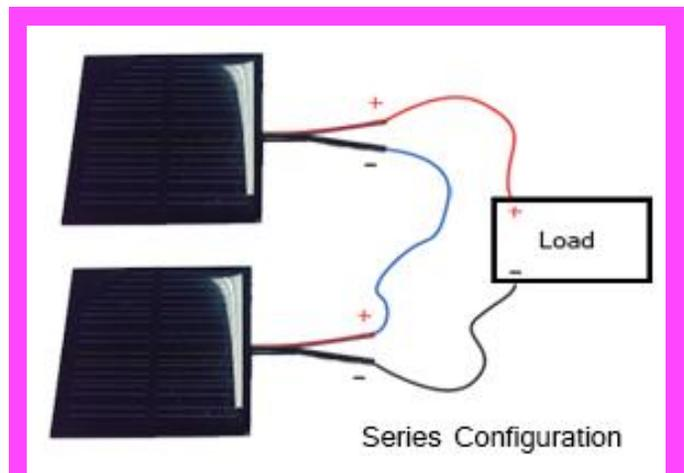

Figure 6 Solar cells in series for increased voltage
Step 1: Build the series circuit in Figure 6 with your two solar cells using the series connection of the 1k and 220 ohm resistors as a load. Connect this circuit to your myDAQ with AI0 measuring total voltage across the two resistors and AI1 measuring the